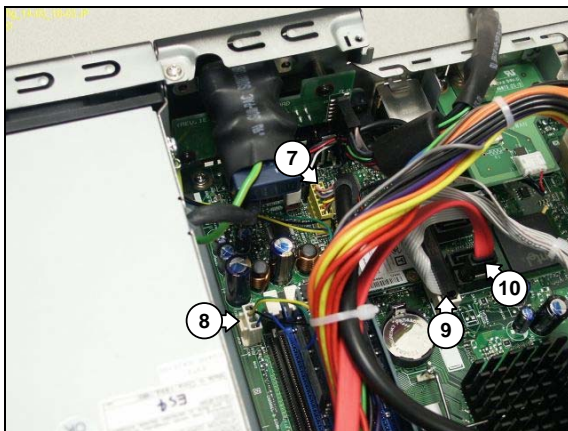

Figure 12.16-3
13. Disconnect the FP audio cable (7) from the motherboard. See Figure 12.16-3.
14. Disconnect the PSU fan cable (8) from the motherboard. See Figure 12.16-3.
15. Disconnect the ATA33 cable (9) from the motherboard. See Figure 12.16-3.
16. Disconnect the SATA cable (10) from the motherboard. See Figure 12.16-3.